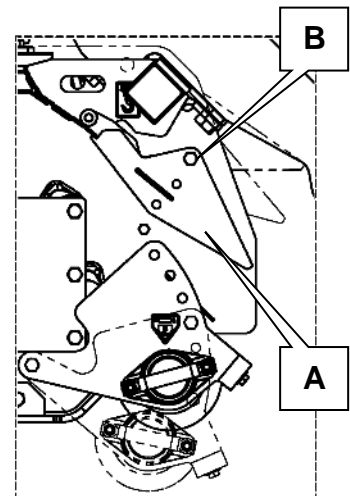

Figure 6.8
- The adjustable rear guard (see Figure 6.8 A) is fastened at each end of the cowl by a bolt (see Figure 6.8 B).